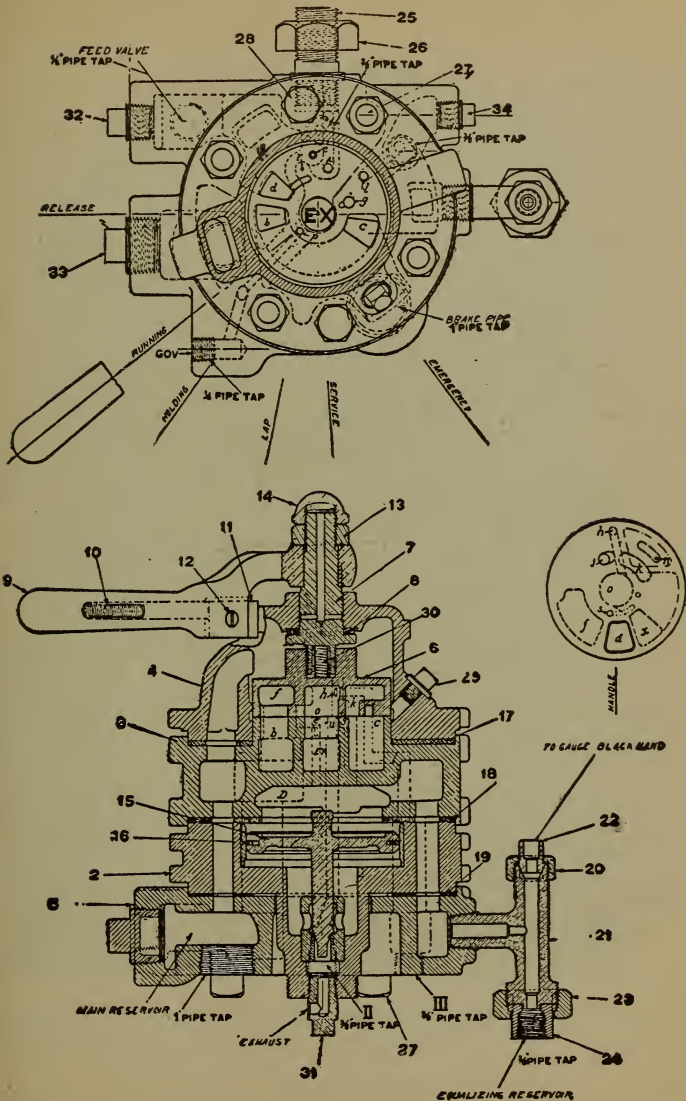

Fig. 1—The H-6 Automatic Brake Valve Cross Section.
A. In the automatic brake valve is a piston and valve called the equalizing discharge piston and valve, No. 15. See Figure 1. The underside of this piston is directly connected to the brake pipe. The chamber *D*, above piston 15, is directly connected to the equalizing reservoir *ER* and to a small port *e* in the
rotary valve seat called the preliminary exhaust port. In *service* position the preliminary exhaust port is open to the atmosphere through port *h* and exhaust cavity *o* (see small view plan of Rotary Valve at right, see Fig. 1), in the rotary valve, thus allowing air from the equalizing reservoir and the chamber *D* above the equalizing discharge piston to flow to the atmosphere. This reduces the pressure on the top of the piston below the brake pipe pressure on the underside, which raises the equalizing discharge piston 15 and permits brake pipe air to flow to the atmosphere through the service exhaust fitting *B. P. Ex.* The flow of air from the equalizing reservoir to the atmosphere continues until the brake valve handle is returned to *lap* position. This closes the preliminary exhaust port *e*, and prevents further decrease of pressure in the equalizing reservoir and chamber *D*. Air will continue to discharge from brake pipe until its pressure has been reduced slightly lower than that remaining in chamber *D*. The higher pressure on the top of the piston then forces the valve to its seat and prevents further reduction of brake pipe pressure.